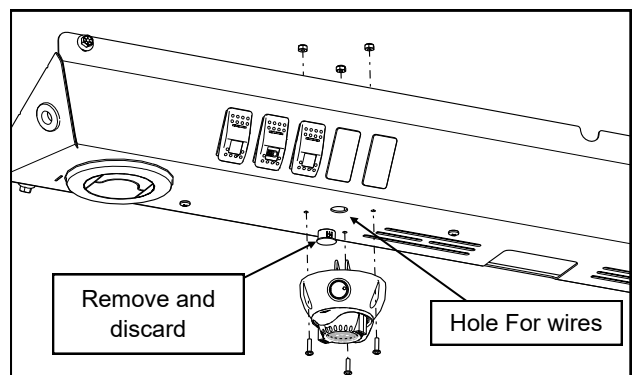

Fig. 3.2
- 3.2 Feed dome light wires through the larger hole in the console, then secure the light to the pan with the #6-32 x 3/4" pan head screw and #6-32 Nylon locknut supplied. Shown in figure 3.2. Torque to 10 inch-lbs.